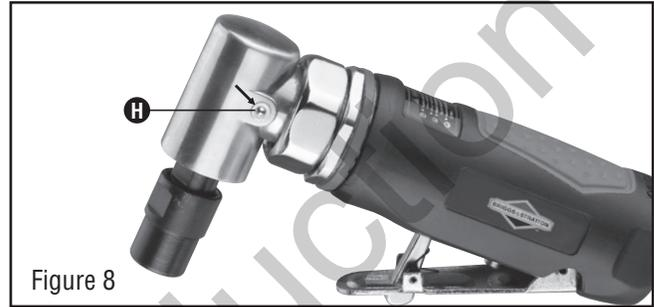

Figure 8
NOTE This tool features a grease cap (H) on the L-type connector. Use a grease gun (not included) and insert the gun nozzle into the grease cap. Several drops of grease are recommended for lubrication of the gears of the motor assembly. This will help the motor assembly to work in good condition and extend tool life. Lubricate the motor assembly once every working day. (See Figure 8)